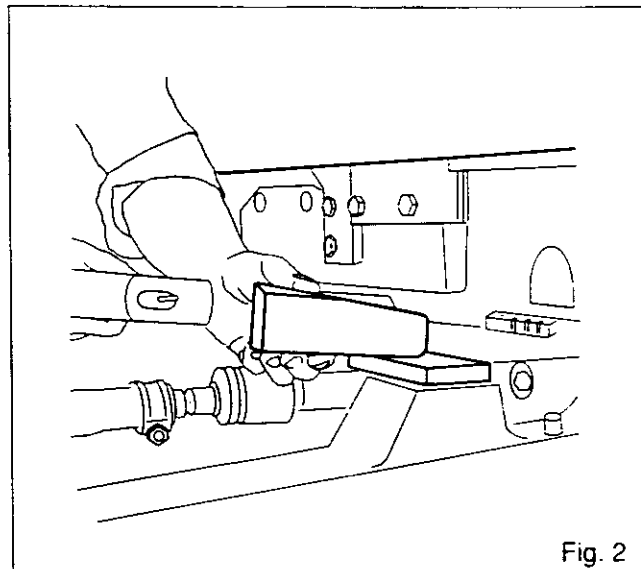

Fig. 2
- Fit wedges between the frame and the front axle (Fig.2).